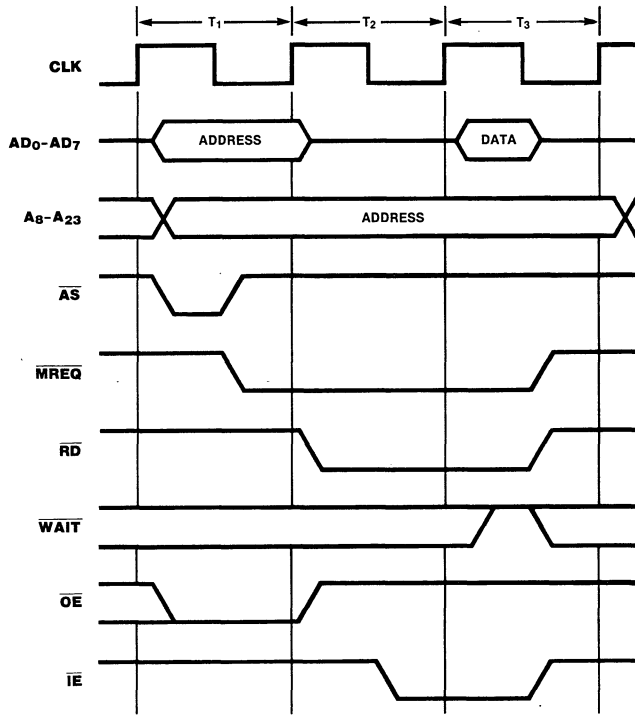

Figure 38. Memory Read Timing
**Memory Transactions.** Memory transactions move instructions or data to or from memory when the Z280 MPU makes a memory access. Thus, they are generated during program execution to fetch instructions from memory and to fetch and store memory data. They are also generated to store old program status and fetch new program status during interrupt and trap handling, and are used by DMA peripherals to transfer information. A memory transaction is three bus cycles long unless extended with wait states (Figures 38 and 39).